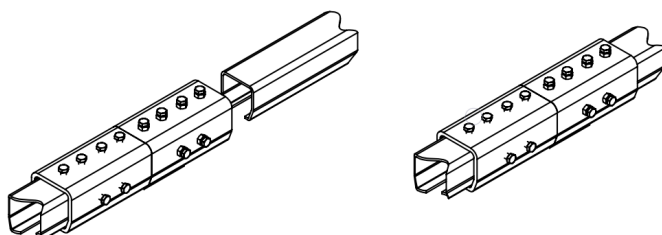

Fig. 55
Step 2 : Slide the dilatation joint onto the uncut profile section, up to the welded plates, as illustrated in fig. 54 & fig. 55 and secure the profile into position by tightening the bolts of the upper and side surfaces of the joint. Adjust the bolts accordingly, to ensure the profile section is horizontal and there is no gap or the minimum possible gap between the profile and the welded plates of the dilatation joint. The running/working surface must be flat, continuous and even throughout the joint.